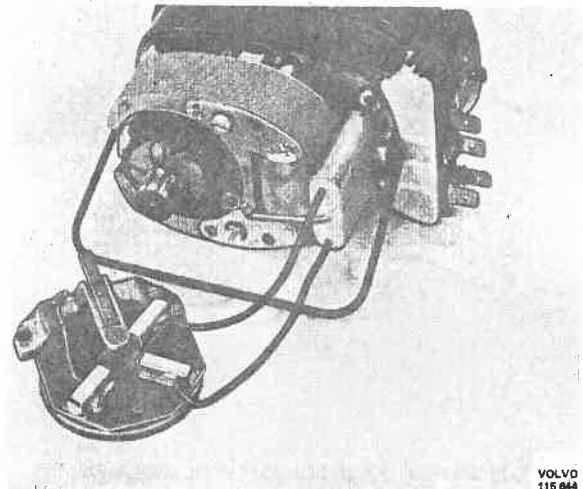

Fig. 36-13. Wiper motor with removed brush holder bridge
1. Take off the casing from the wiper motor and the two screws securing the brush holder bridge. Pull the rotor straight up and remove the two screws securing the stator, see Fig. 36-13.